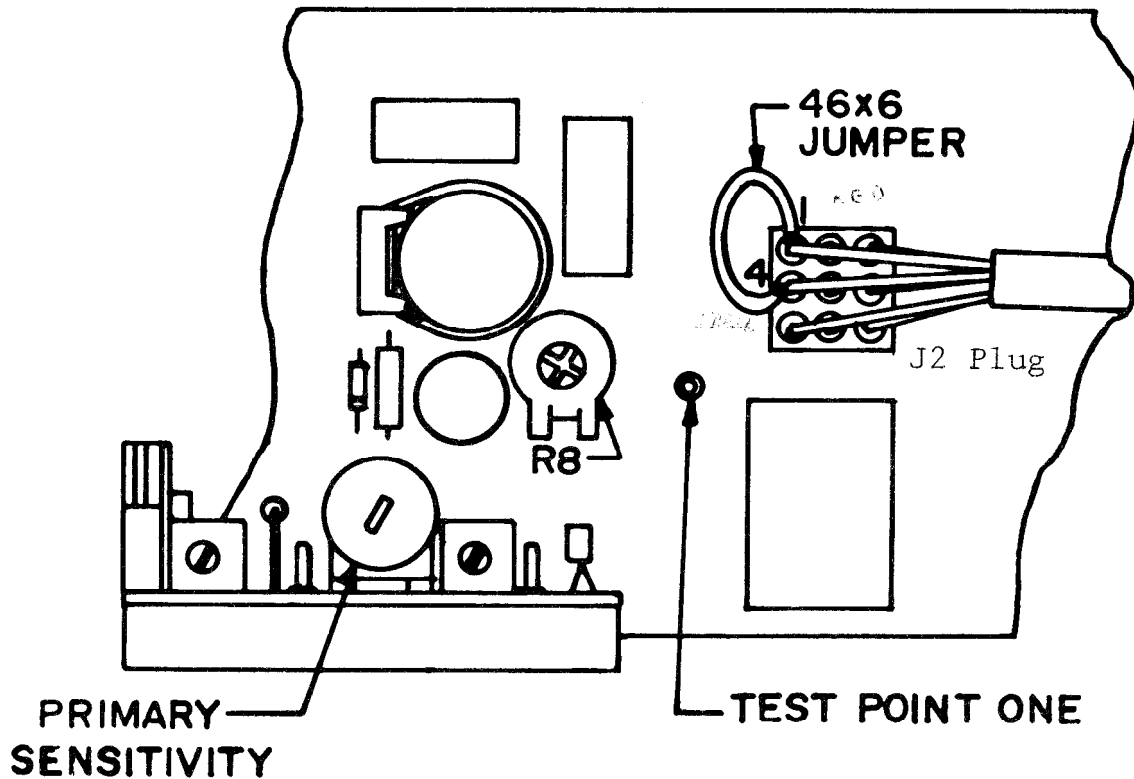

Figure 4
1. Place a jumper wire between pins 1 and 4 of plug J2 on the master board (Figure 4).
3. Connect your volt meter with the common lead to the acceptor chassis and the positive lead to test point one, TP1 (Figure 4).
Listen to the actuation of the rear clear switch to make sure it actuates and de-actuates as a bill moves through the unit. Reform the wire switch actuator if necessary to make sure the switch operates even with a very limp bill. Turn potentiometer R8 (Figure 4) fully clockwise. If vend occurs, readjust clearing circuit (Page 10). Check grid lamp alignment (Page 13).